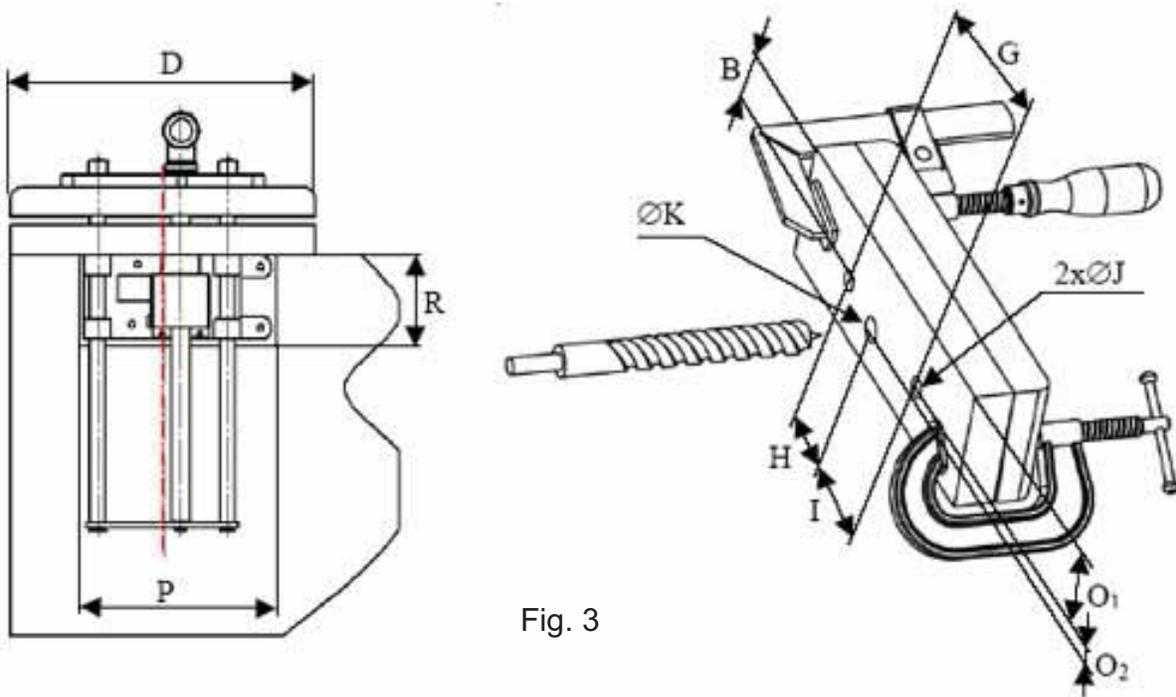

Fig. 3
It is important to note that vice HVQ516 is not axially symmetrical. This must be taken into account when measuring and making openings "ØJ" and "ØK" at distances "O1", "O2", "G", "H", "I" see. **Tab. 1**. Now measure out the openings for the spindle (3) and guide rods (6) onto the front and rear additional jaw, and bench collar, if applicable. To make work easier it is possible to drill the front and rear jaws together by clamping them using a C-shaped brace or clamp – see Fig. 3.
Preparation of spacer according to dimensions E, P and R – see Fig. 3 and Tab. 2